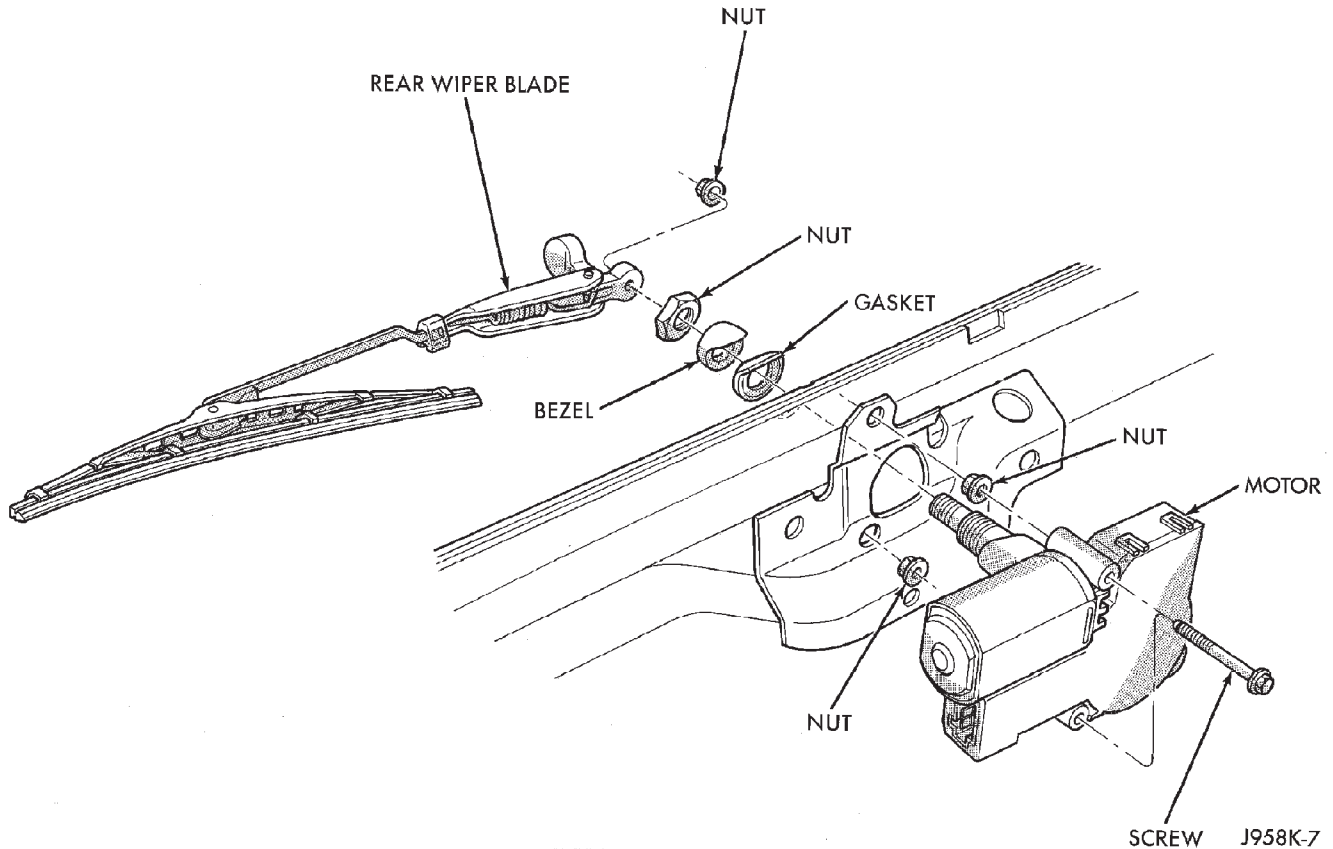

Fig. 11 Rear Wiper Motor Remove/Install
(1) Disconnect and isolate the battery negative cable.
(2) From the outside of the liftgate, remove the rear wiper arm from the rear wiper motor output shaft. See Wiper Arm in this group for the procedures.
(3) From the outside of the liftgate, remove the rear wiper motor output shaft nut (Fig. 11).
(4) Remove the external bezel and gasket from the rear wiper motor output shaft.
(5) From the inside of the liftgate, remove the liftgate inner trim panel. Refer to Group 23 - Body for the procedures.
(6) Unplug the rear wiper motor wire harness connector.
(7) Remove the screws that secure the wiper motor to the liftgate inner panel.
(8) Remove the rear wiper motor from the liftgate.
(9) Reverse the removal procedures to install. Tighten the mounting hardware as follows: